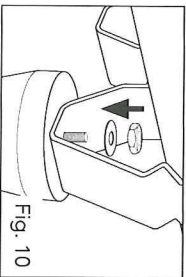

Fig. 10
4. From the inside of the supporting foot bracket, place the washer onto the bolt. Fasten the assembly in place with the nut (nuts, bolts and washers supplied) (Fig. 10).